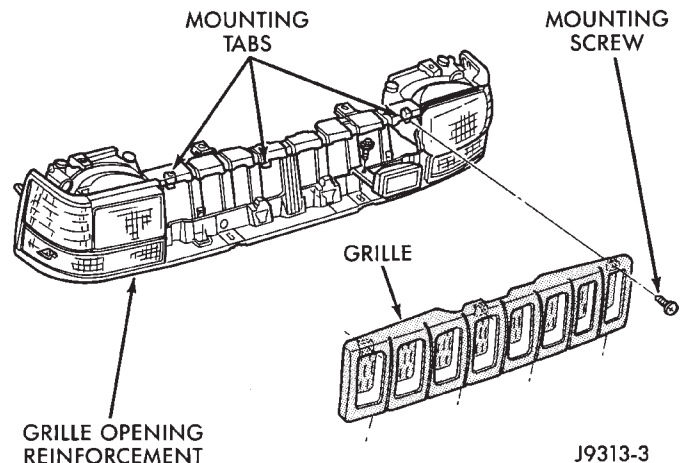

Fig. 2 Grille Removal
- (1) Disconnect battery negative cable and isolate.
- (2) Remove the 3 screws and the grille (Fig. 2) from the grille opening reinforcement (GOR).